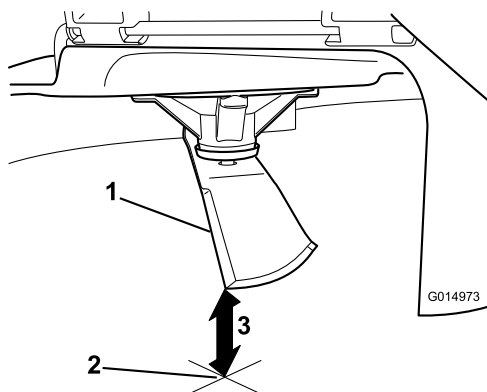

Figure 62
3. Measure from the tip of the blade to the flat surface (Figure 62).